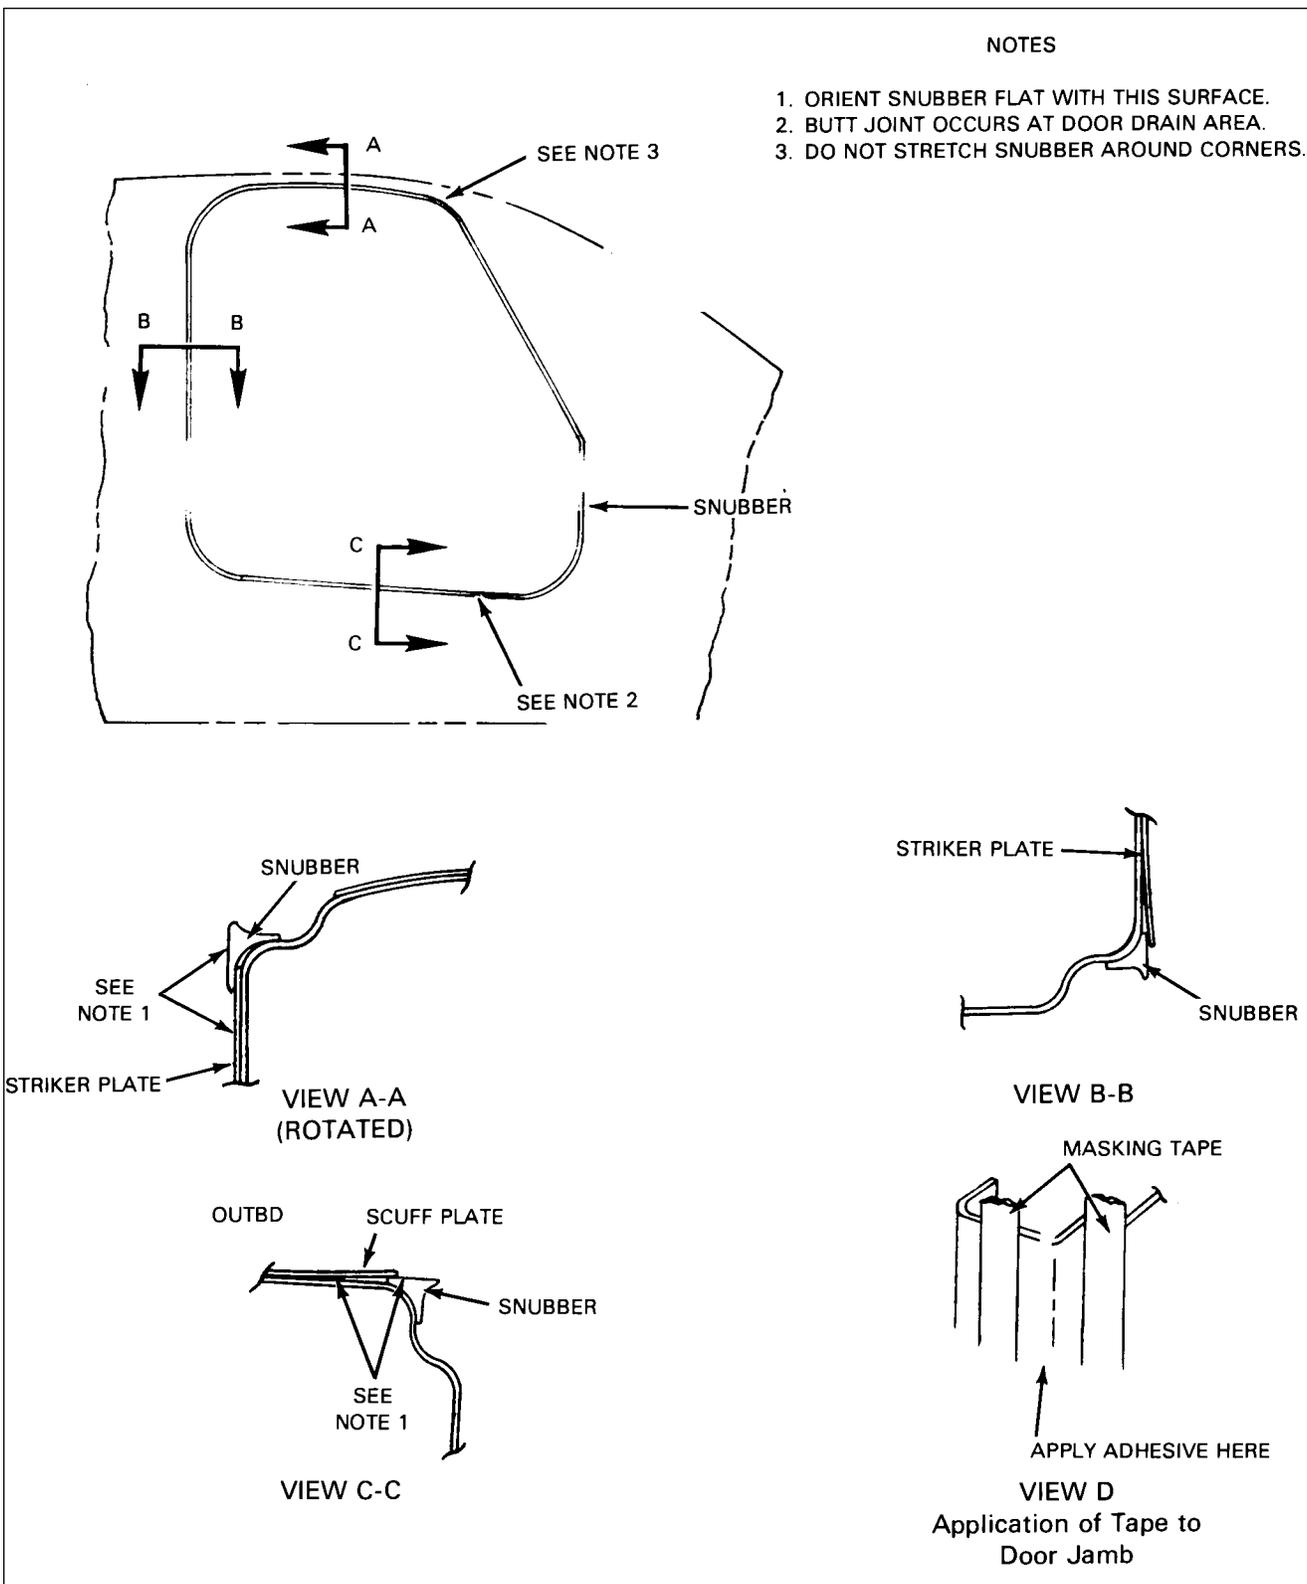

Figure 52-1. Installation of Door Snubber
**REMOVAL AND INSTALLATION OF DOOR SEAL SNUBBER.** (Refer to Figure 52-1.)
To effect a clean installation, it is recommended that the jamb be masked off as shown in Figure 52-1.
*Make certain the leg of the snubber goes under the striker plate for the side latch and over the striker plate for the upper latch. (Refer to Figure 52-1.)*
- B. Apply adhesive to the door jamb in the area shown in Figure 52-1, View D, and to the inside surface of the snubber.